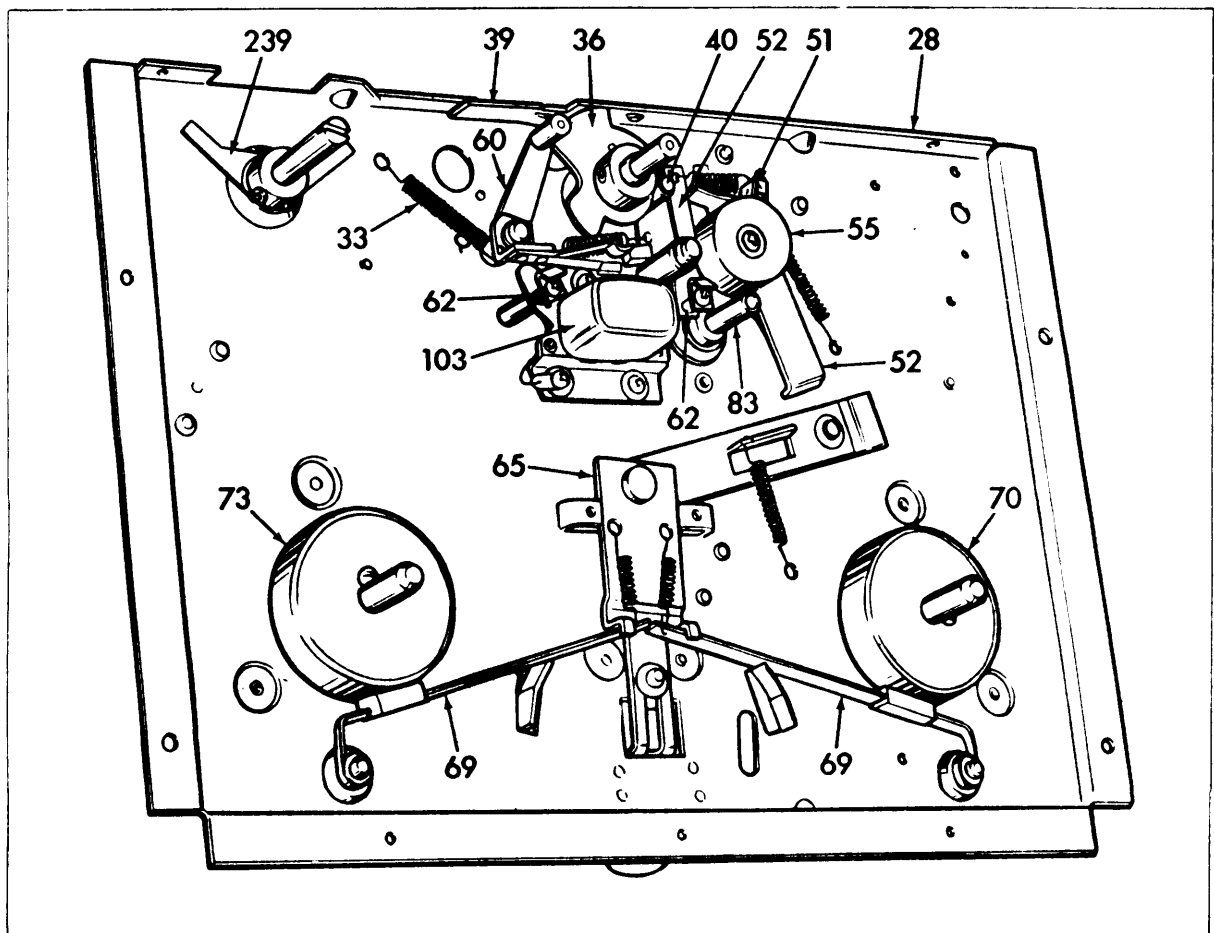

Figure 7. Mechanism Assembly - Top View
The mechanism assembly (see figures 7 through 10) consists of a system of shafts, levers, and rollers attached to the mechanism plate at suitable points to provide a mechanically interlocked train between the supply and take-up spindles. A single speed synchronous motor drives the train at the different speeds and directions determined by the setting of the pinch roller cam relative to rollers on the spring loaded levers. Interlocked with the driving mechanism are pressure and brake pad assemblies. The pressure pads press the tape against the record-reproduce-erase head as it passes the head during recording and reproducing. During FAST FORWARD and REWIND operations the pressure pads are retracted to allow the tape to pass the head with minimum drag. The brake pads apply the force required to slow down or stop the tape and reels when changing from FAST FORWARD and REWIND to FORWARD and STOP.
5.6 Mechanical ASSEMBLY DESIGN (See figures 7 through 10, and 24.)